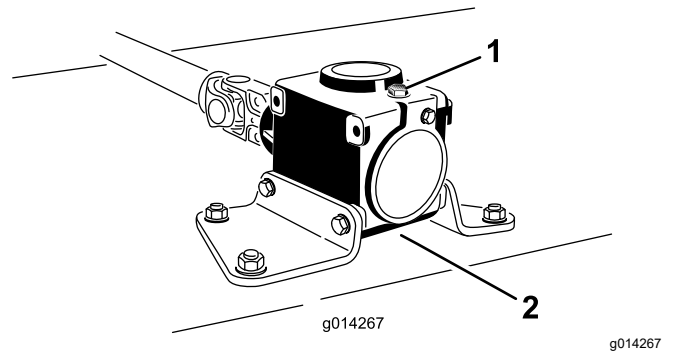

Figure 20
6. Remove the dipstick/fill plug from the top of the gearbox (Figure 20) and make sure that the lubricant is between the marks on the dipstick.
6. Remove the dipstick/fill plug from the top of the gearbox (Figure 20).